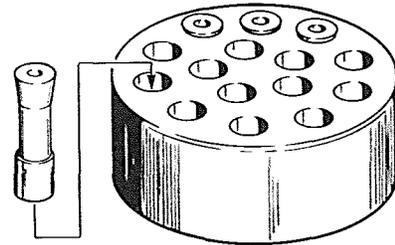

Figure 8. Tapered Plug Inserted in Unused
- 4.13 Prior to installing the multiple end cap, determine the number of openings, if any, to be left vacant, then insert the tapered plugs as shown in Figure 8 in the unused openings. These openings should be located in the front of the splice. Be sure that the plug is inserted with the shoulder of the plug extended beyond the narrow end of the nipple inside the cap.